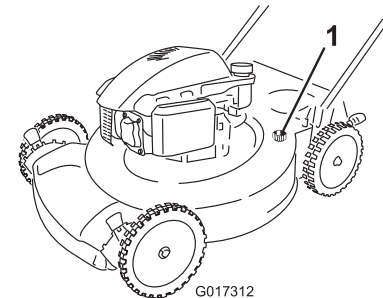

Figure 30
4. Attach a garden hose that is connected to a water supply to the washout port on the machine housing (Figure 30).